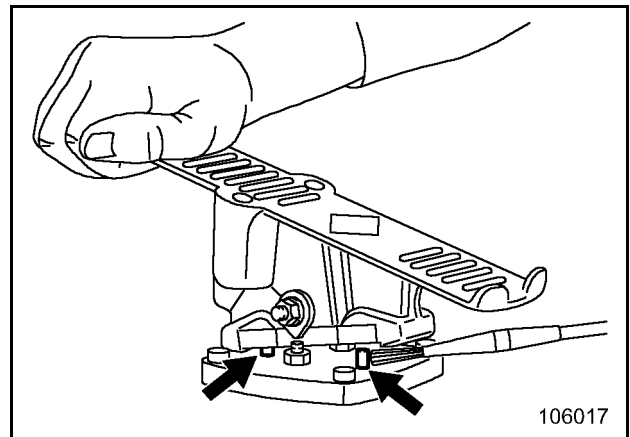

Fig. 3-68:
- Remove old grease and dirt from the control spools and the actuator plate of the pedals (arrows, Fig. 3-68:).